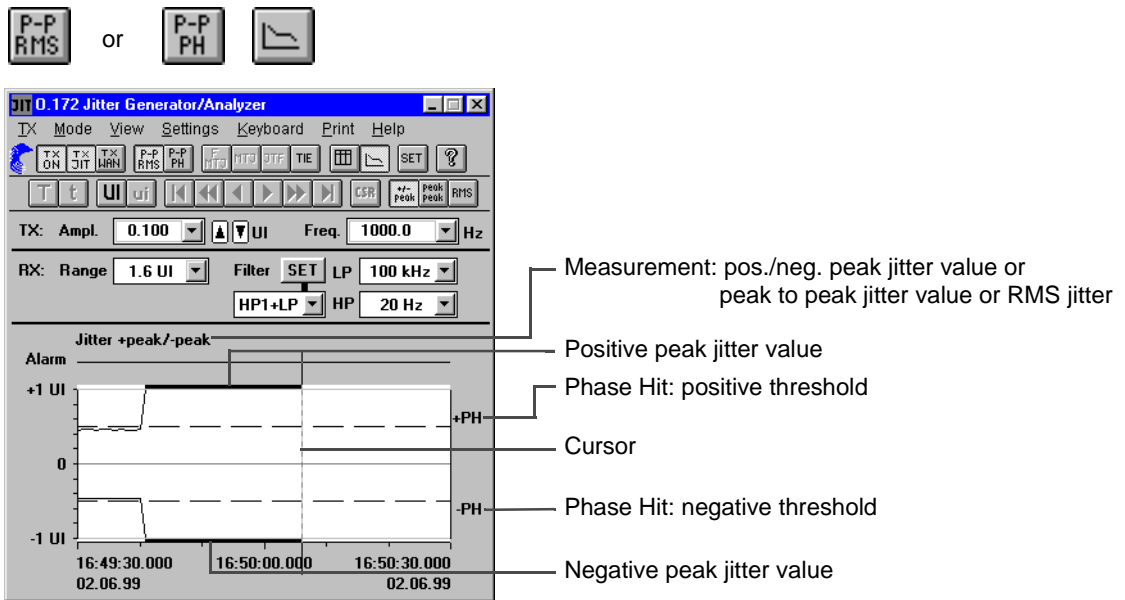

Fig. O-4 Current Values display (graphic display)
Current jitter values; graphical display (see Fig. O-4)
- Current jitter values; graphical display (see Fig. O-4)